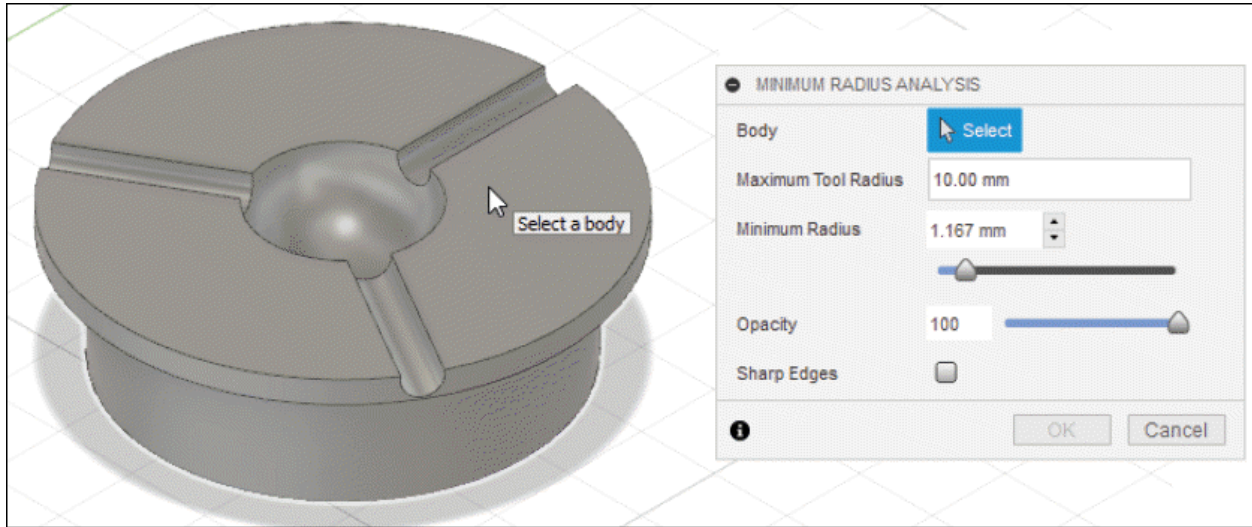

Figure-65. Selection of face of the body
- The **Select** button of **Body** section is active by default. Click on the body to be selected; refer to Figure-65.